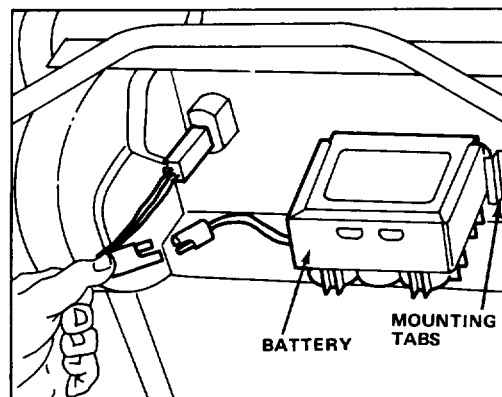

Figure 4
7. Charge battery: refer to Charging Battery, page 12. Slide battery, decal side up, between mounting tabs on back of control panel and connect wires (Fig. 4). Insert key into switch when ready to start engine.